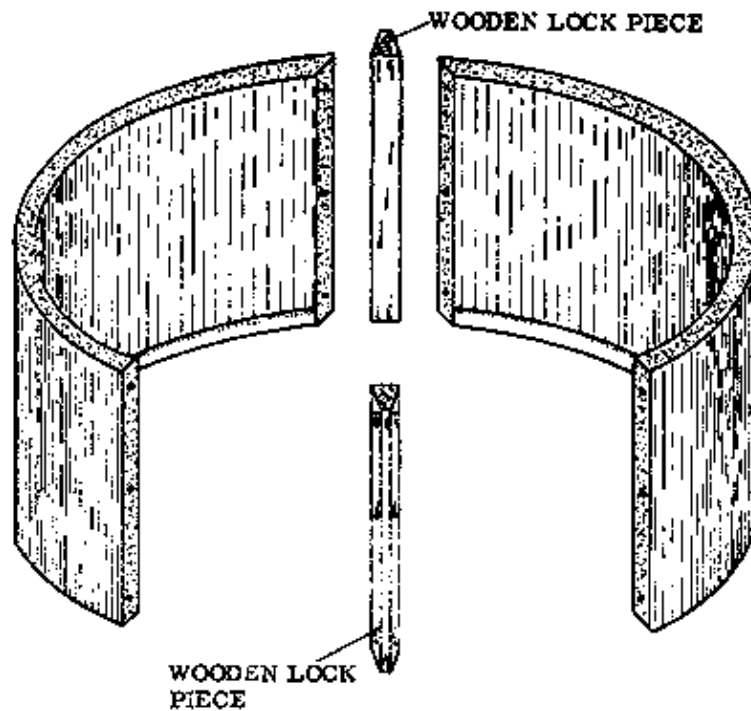
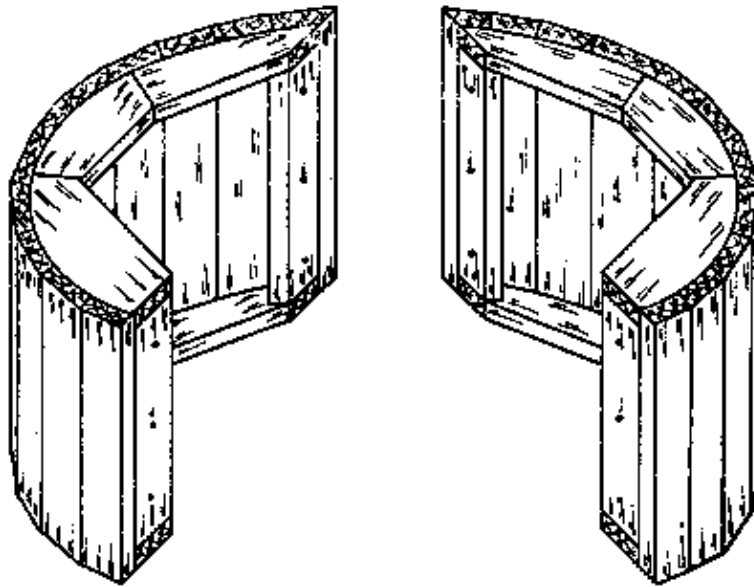
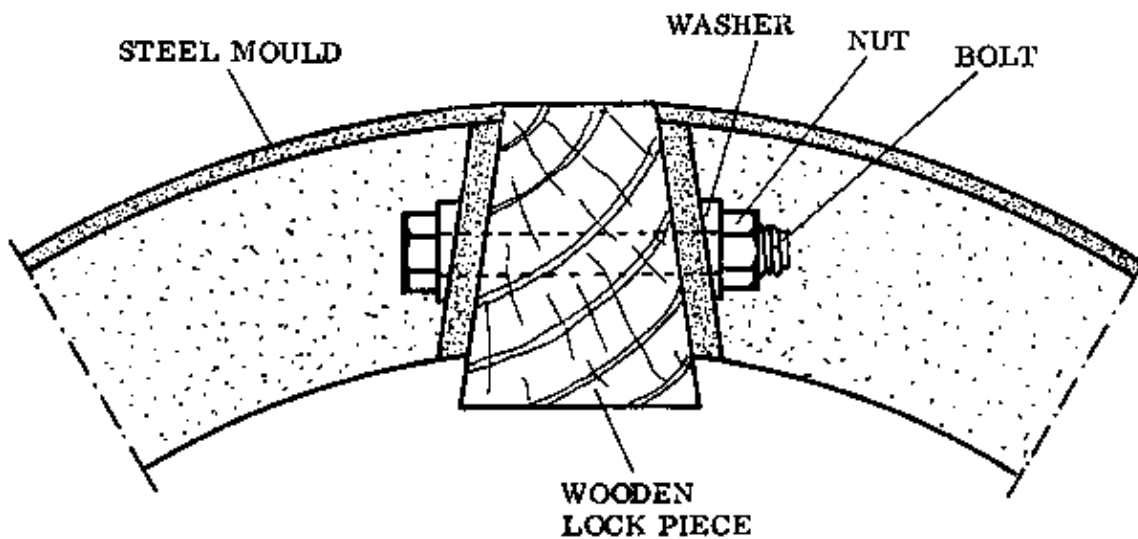

Fig. 1 STEEL MOULD
Fig. 2 WOODEN MOULD
Fig. 3
– MOULDS: A steel mould (Fig. 1) or a wooden mould (Fig. 2) is used to support the sections of concrete lining during construction and curing. After the ring has hardened sufficiently, the wooden lock pieces are removed and the mould is taken out and used for the next ring (Fig. 3).